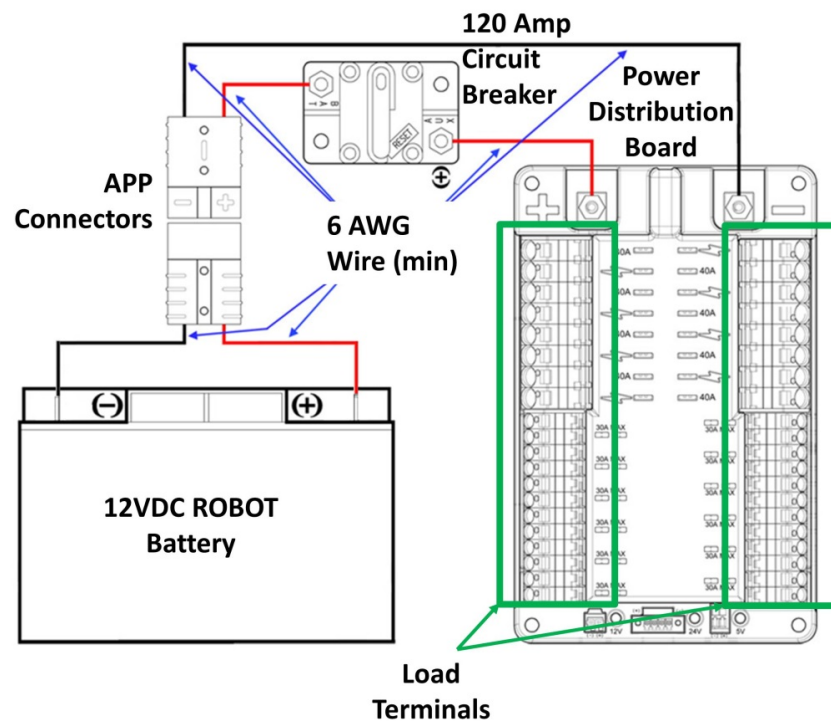
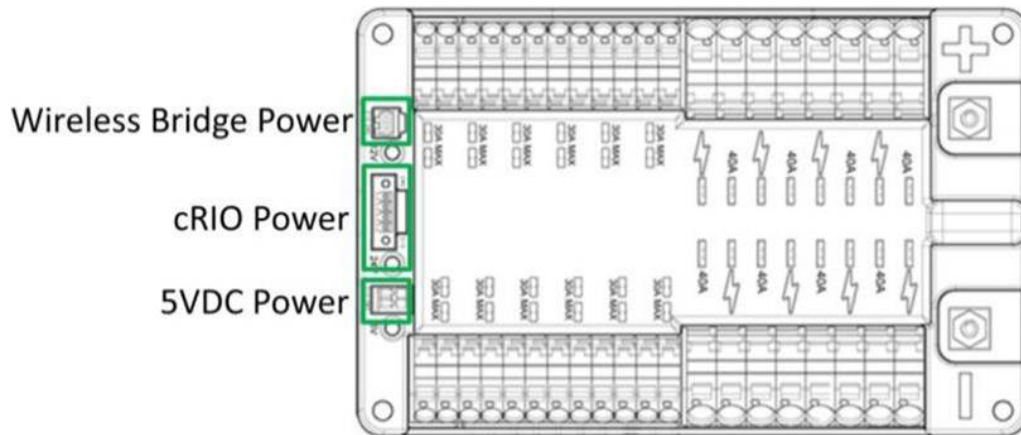

Figure 4-11: Main Power Distribution
Figure 4-12: Wireless Bridge, cRIO, and 5VDC Power Connections
The one ROBOT battery, the one main 120-amp (120A) circuit breaker (Cooper Bussman P/N: CB185-120), and the one Power Distribution (PD) Board shall be connected as shown in Figure 4-11.
All circuits, with the exceptions of those listed in R42 and R45, must connect to, and have power sourced solely by, a single protected 12VDC WAGO connector pair (i.e. the Load Terminals, as shown in Figure 4-11) or the 5VDC supply on the PD Board (as shown in Figure 4-12), not the M6 shanks.
The cRIO power input must be connected to the 24VDC supply terminals on the PD Board shown in Figure 4-12.
The Wireless Bridge power must be supplied by the 12VDC-to-5VDC converter (P/N: CLL25-24S05) connected to the marked 12VDC supply terminals at the end of the PD Board, and not the main WAGO connectors along the sides of the PD Board shown in Figure 4-12. No other electrical load may be connected to these terminals.